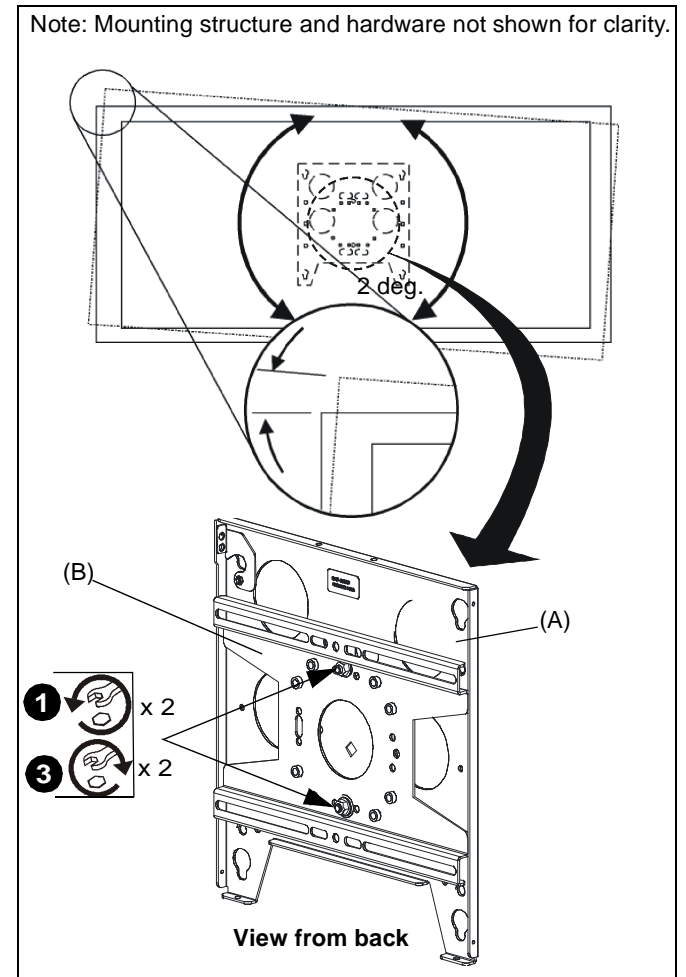

Figure 13
- Loosen the two roll adjustment nuts in upper and lower center holes of truss plate. (See Figure 13)
- Tighten the two roll adjustment nuts. (See Figure 13)